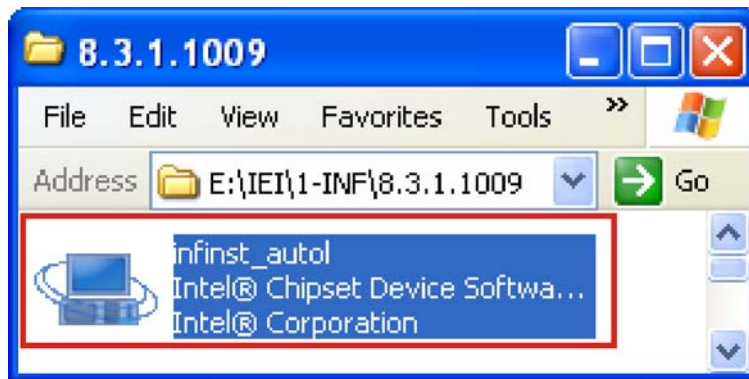

Figure 7-3: Chipset Driver Screen
Step 3: The file explorer window opens (Figure 7-3).